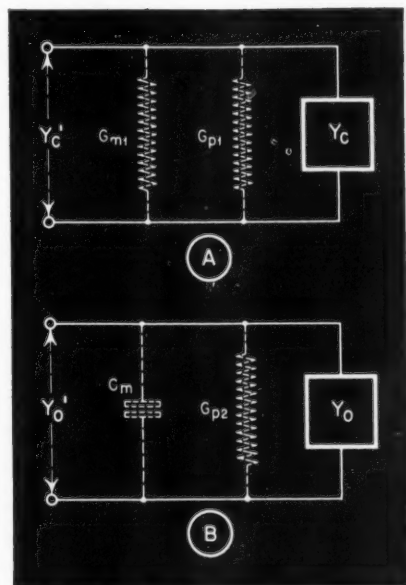

Fig. 4. In (A), a representation of the fictitious cathode load, Y_c^1 , and (B) of the plate load Y_o^1 .
The significance of the fictitious loads, Y_c^1 and Y_o^1 is illustrated by Fig. 4. Thus the gain expression reduces to
On the basis of this expression, it is possible to select the correct values of parameters for optimum performance. Of these, the tube parameters (G_{m1} , R_1 , G_{m2} , R_2) must be regarded as fixed. Likewise, the resistive components of Y_c^1 and Y_o^1 are not subject to choice. It is evident from inspection of (10) that they should be as low as possible, but the Q of the coils, as well as the internal resistances of the tubes set a lower limit, as can be seen from (9) and Fig. 4.